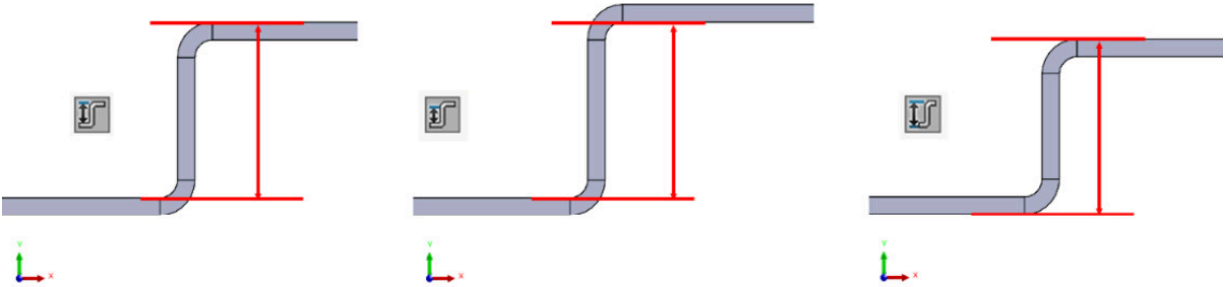

Figure 3.23: Offset Distance types; left to right: Outside Offset, Inside Offset, Overall Dimension
- **Outside Offset:** This uses the distance between the upper face of the **Fixed Flange** and the upper face of the **Jog** area (*Figure 3.23*, left).
- **Inside Offset:** This uses the distance between the two inner faces of the **Jog**—that is, the upper face of the **Fixed Flange** and the lower face of the **Jog** area (*Figure 3.23*, center).
- **Overall Dimension:** This gives the total thickness of the **Jog**—that is, the distance between the lower face of the **Fixed Flange** and the upper face of the **Jog** area (*Figure 3.23*, right).